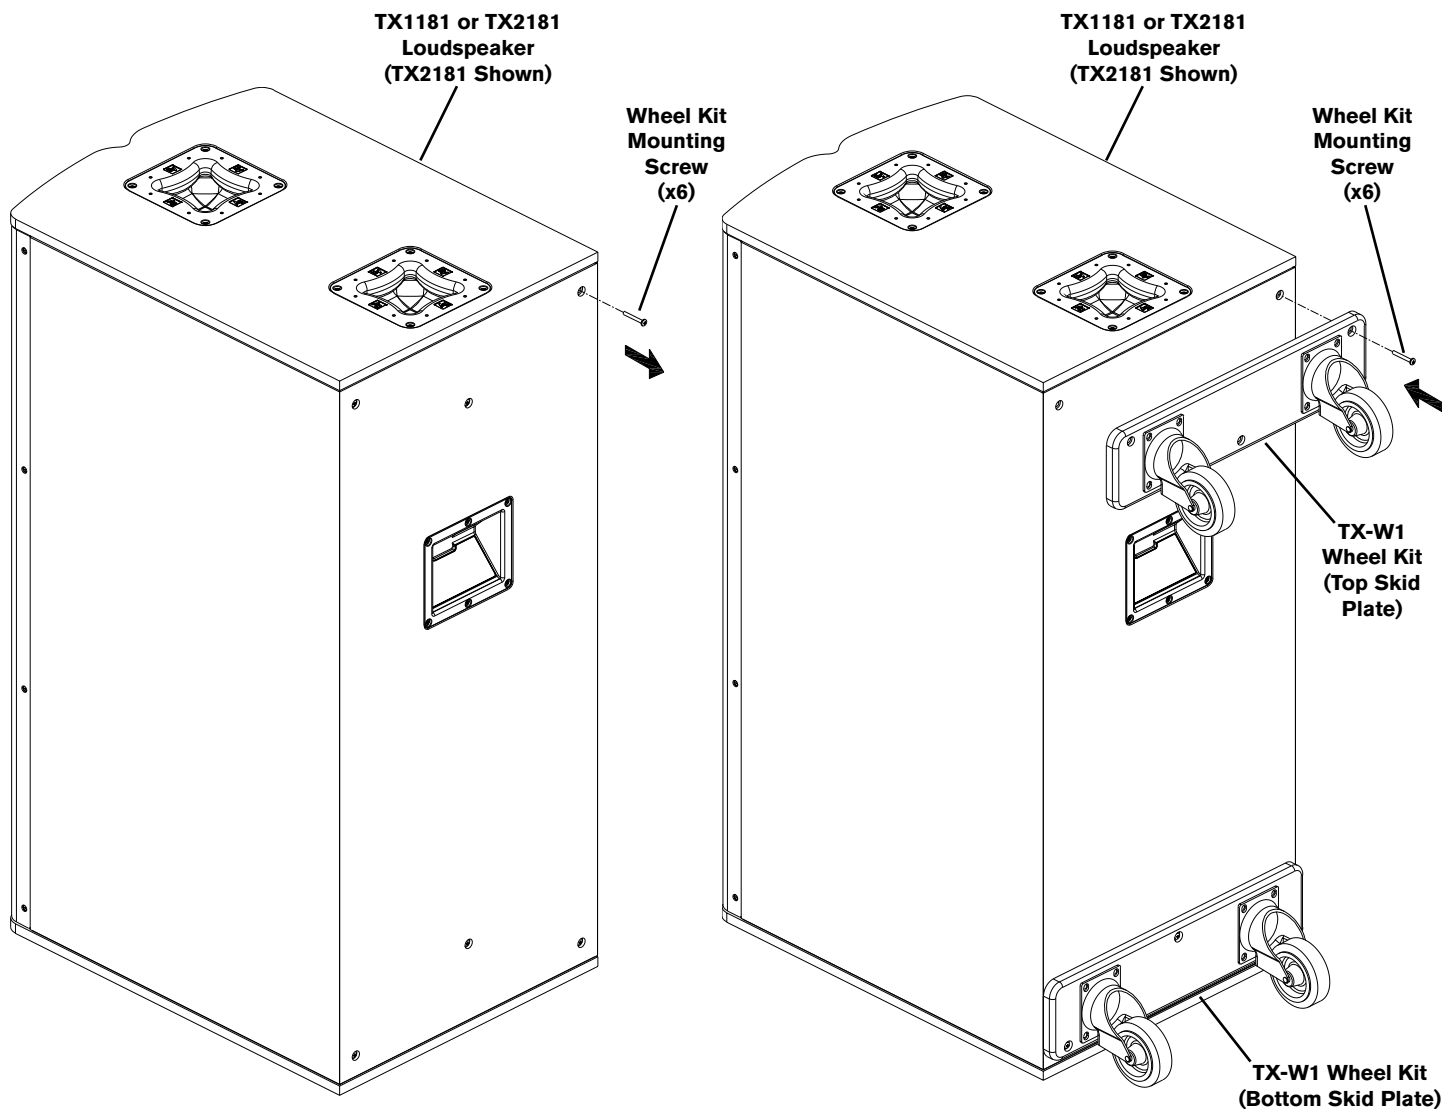

Figure 13:
1. Remove the six (6) screws on the rear of the TX1181 or TX2181 loudspeaker (Figure 13).